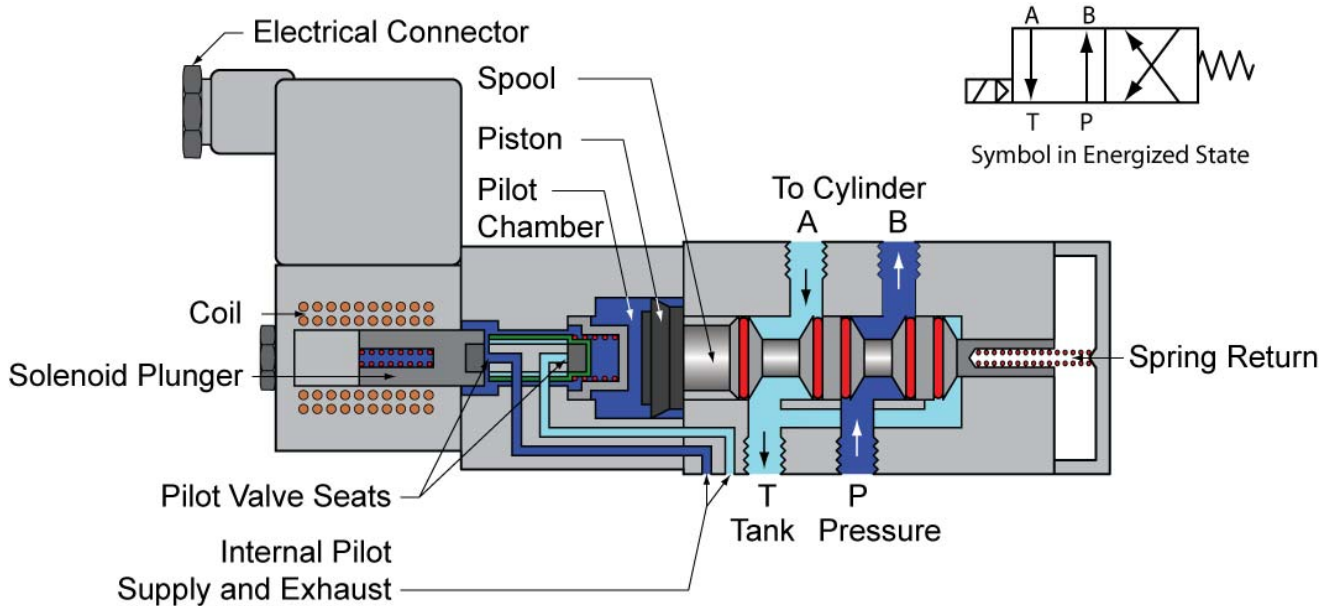
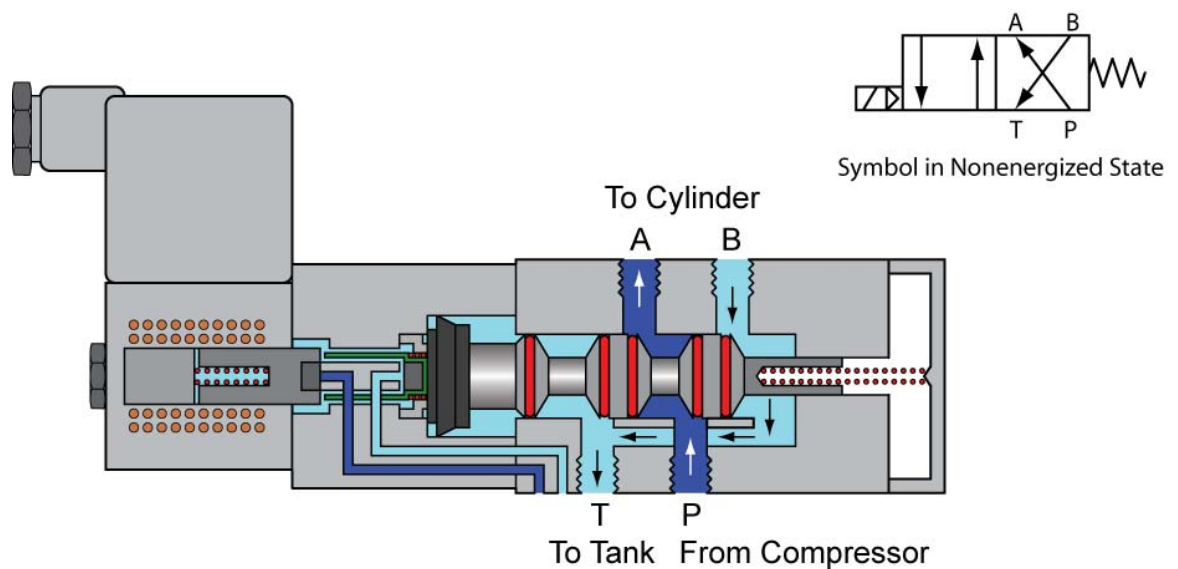

Figure 8: Energized 4-Way 2-Position Single Solenoid Valve with Spring Return
Figure 9: Nonenergized 4-Way 2-Position Single Solenoid Valve with Spring Return
- Solenoid Valve Operation:** A solenoid control valve is the interface between electronic controllers and pneumatic systems. The input to pneumatic solenoid valve is an electrical signal such as 24 volts DC or 120 Volts AC, which energizes an electrical solenoid to control the alignment of the valve. Energizing the coil creates a magnetic field which draws in the solenoid plunger. The plunger allows pressurized air to enter the pilot chamber to drive the piston and the spool (Figure 8). When the coil is de-energized, the pressure from the pilot chamber is released and a return spring pushes the spool and piston back (Figure 9).